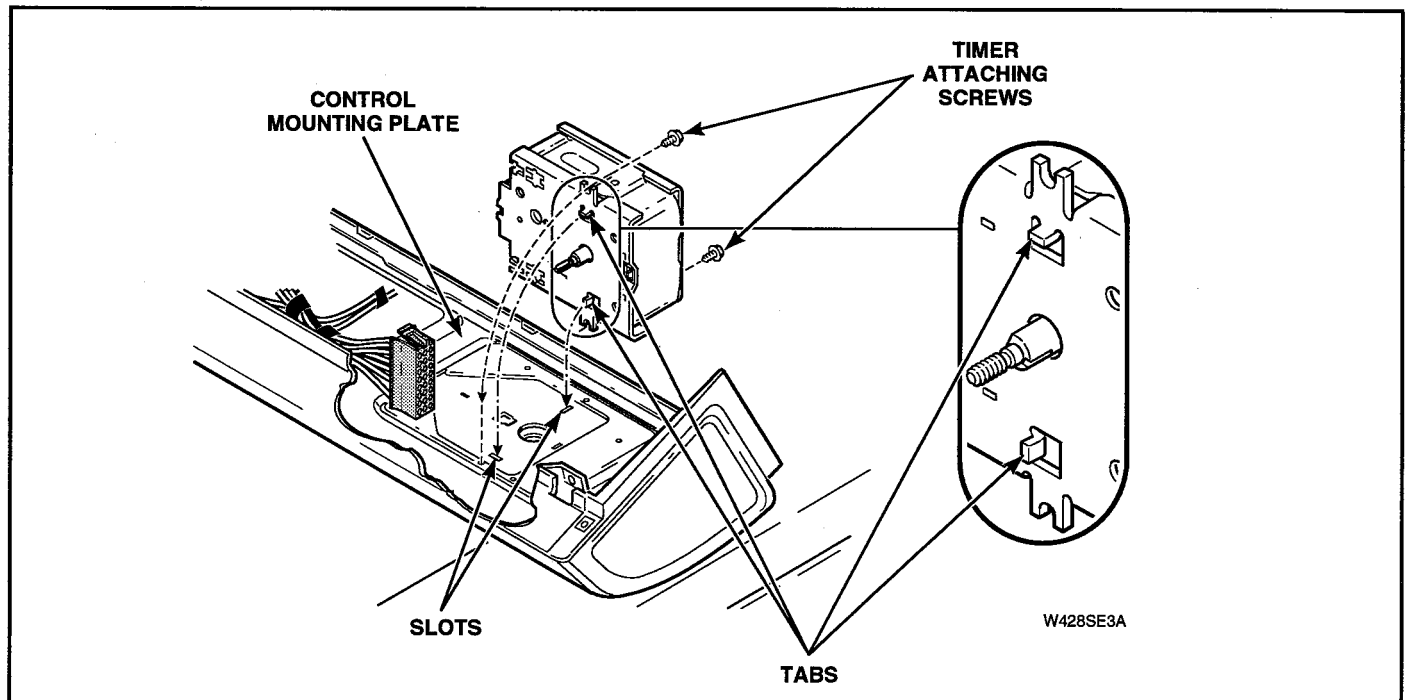

Figure 5-8
**NOTE:** When installing timer, make sure timer is installed correctly and is securely mounted to control mounting plate. See Figure 5-8.
- f. Seat horizontal and vertical tabs on front plate of timer completely into slots on control mounting plate. See Figure 5-8.